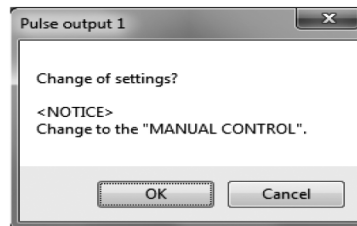

Fig.45
- ④ Click the "OK" button after all settings are completed to display the message box (Fig. 45).